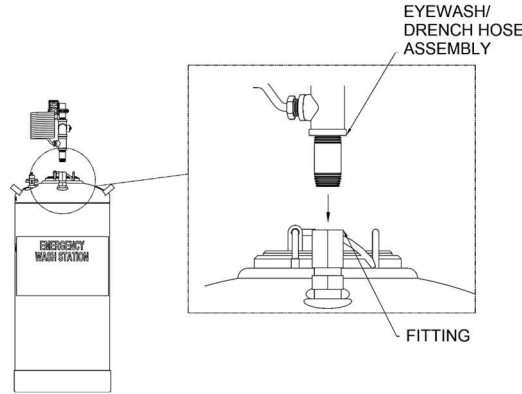

FIGURE 1
- A. Remove plastic cap from the fitting located on top of vessel and connect eyewash/drench hose piping assembly to the fitting (Figure 1).